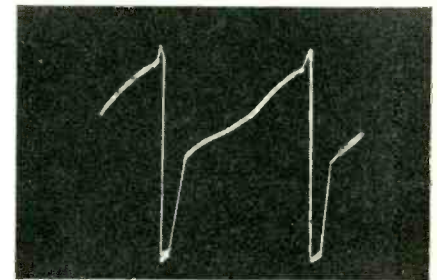

Fig. 10. Wave shape at point in Fig. 9; 30 volts peak to peak.
2. Connect 'scope probe through the same resistor to *point (1)* in *Fig. 9*. Adjust the slug which tunes coil A-F until two sawtooth waves appear and stand still. Adjust *C13* to give a curve like the one shown in *Fig. 10*. Re-adjust the slug if necessary.
3. Set the horizontal hold control to approximately center and adjust *C14* for maximum width and brightness. Retune *T1* to obtain a locked-in picture and a 'scope as in *Fig. 10*.
Fig. 10. Indicative of the "keep-the-serviceman-in-mind" theme which underlined the development of the "Million Proof" chassis is the simplification of RF oscillator adjustments, the majority of which can now be made at the front of the set, via the channel selector switch. The formula is simple. Remove the escutcheon from the selector switch and flip the channel selector to the channel to be adjusted. The masking guide will automatically guide the serviceman to the proper adjustment.